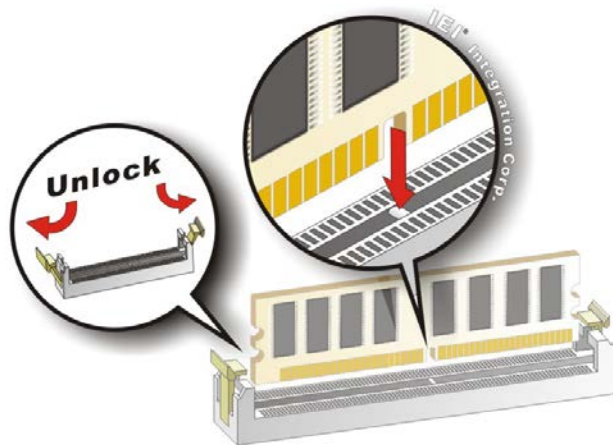

Figure 3-11: DIMM Installation
To install a DIMM, please follow the steps below and refer to **Figure 3-11**.
- Step 2:** **Open the DIMM socket handles.** Open the two handles outwards as far as they can. See **Figure 3-11**.
- Step 3:** **Align the DIMM with the socket.** Align the DIMM so the notch on the memory lines up with the notch on the memory socket. See **Figure 3-11**.
- Step 4:** **Insert the DIMM.** Once aligned, press down until the DIMM is properly seated. Clip the two handles into place. See **Figure 3-11**.